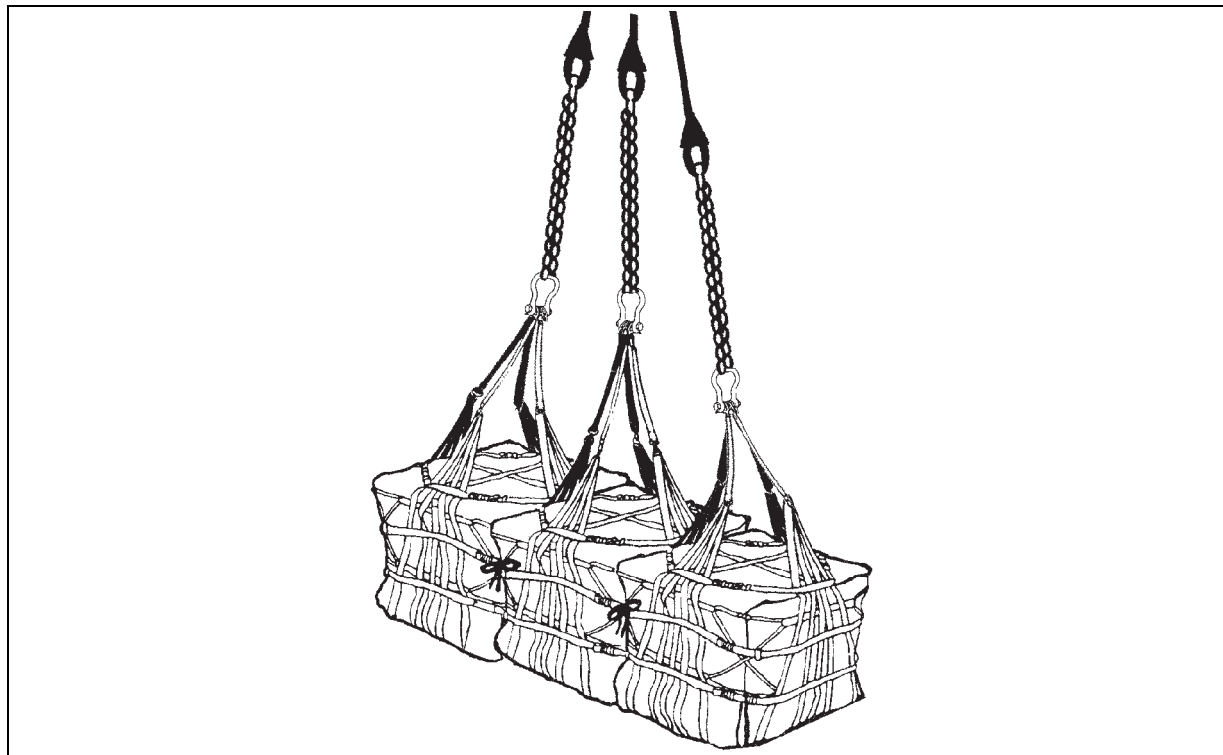

Figure 8-7. Single-point Load Consisting of Three A-22 Cargo Bags
- Preparing the Load for Pickup.** Prepare the load for pickup by looping the chain end of a sling leg through the medium clevis and inserting link number 3 in sling grabhook. Several A-22 cargo bags can be carried at the same time (figure 8-7). Secure the bags together with a temporary tie of Type III nylon cord around the upper lateral straps of each container at the inside corner where they meet. Attach slings or sling legs to each container through the medium clevis. Adjust the sling leg lengths so that all the bags are carried at the same level. Usually link number 3 is placed in the grabhook. This will make pickup and release easier since all loads will leave the ground at the same time. To derig the A-22 cargo bag, remove the sling legs and clevis assemblies. Untie or cut the taped or tied strings. Unfasten the web straps and spread out the cover.